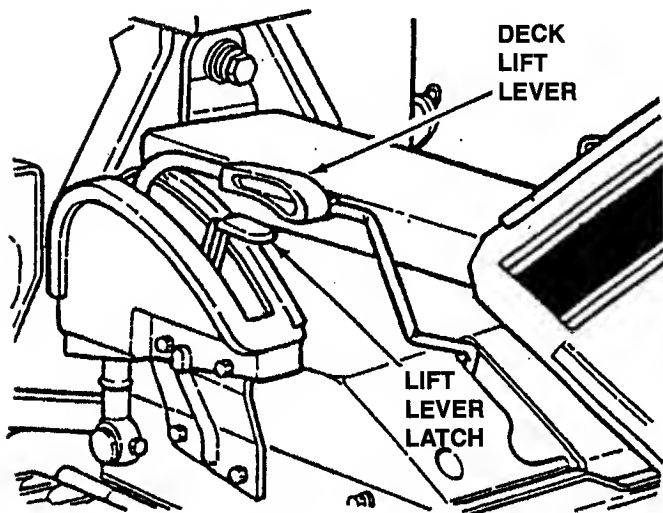

FIGURE 2.15
1. Adjust cutting height as desired to any one of six positions using deck lift lever. When in desired height of cut, release latch, then try to move deck lift lever to ensure lift lever latch is fully engaged. See Figure 2.15.